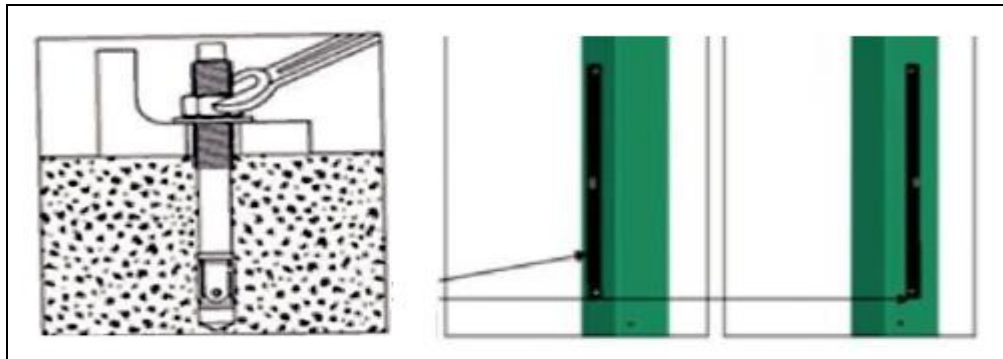

Figure 6
7.5 Tighten the expansion bolt and check the verticality of the column with a level. If necessary, insert a shim at the bottom of the column to adjust the level. (See Figure 6)